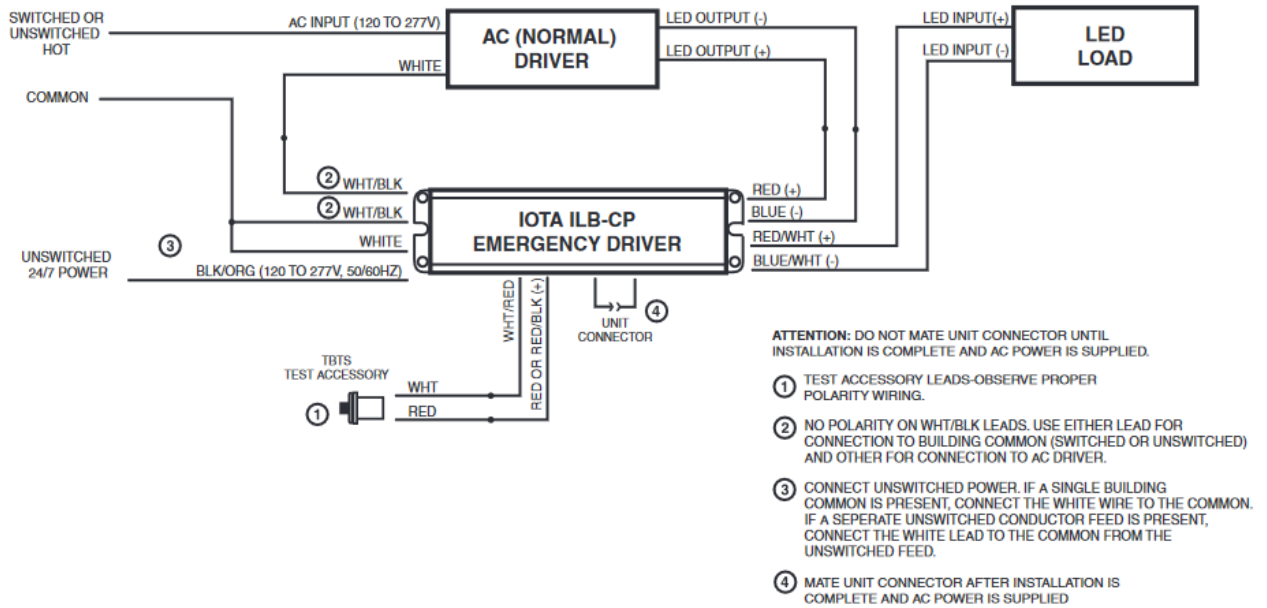

Figure 12: Externally Mounted Wiring Diagram for ILB CP10-A
7. Refer to Figure 12 for the wiring diagram if the fixture is equipped with an externally mounted battery. Note, that the whip not connected to anything is the test switch connection which should be marked at the base of the whip with "FLEX B" on the battery.